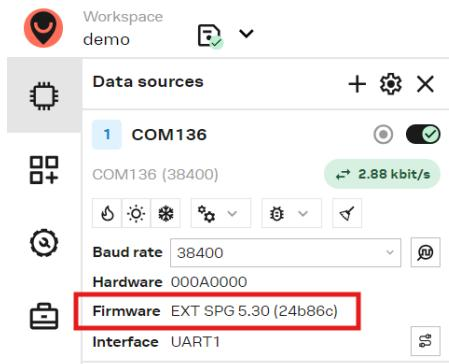

Figure 7: Data source panel in u-center 2 indicating the firmware variant
- ☞ The EVK-M102 supports multiple firmware images. To ensure proper evaluation, verify that the receiver is running the intended firmware variant with the *Data source* panel in u-center 2, as shown in Figure 7, or by polling the message UBX-MON-VER. If not, refer to the Uploading the firmware for instructions on flashing the EVK with a different firmware image.